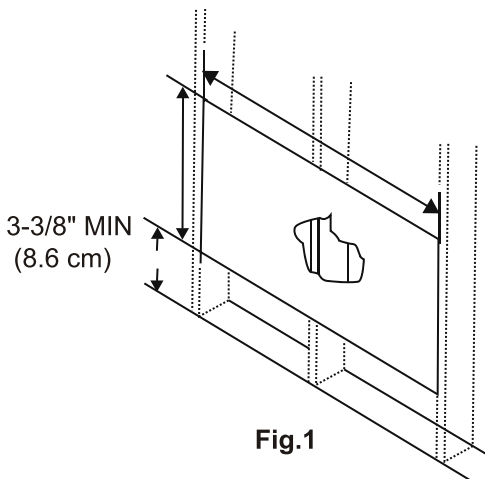
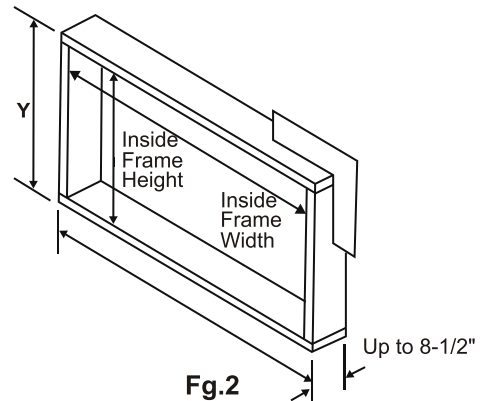

Fig.1
Fig.2
3. Measure between inside edges of every other stud as shown in Fig. 1.
Carefully measure and cut an opening with the following dimensions depending on your model. See Fig. 1 and Fig. 2.